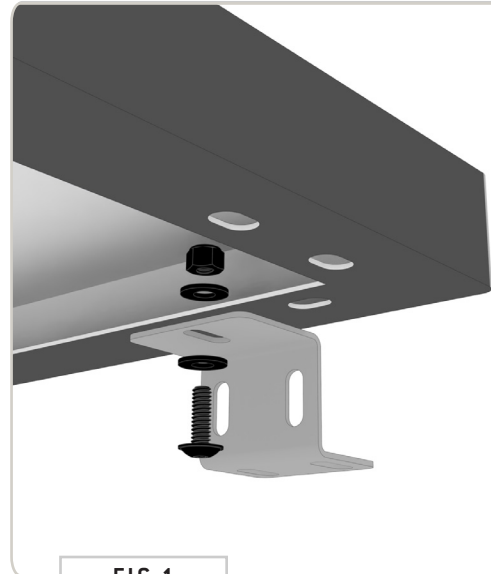

FIG 1
1.2 Attach Mounting Brackets to Solar Panel: Loosely attach Solar Panel to Mounting Brackets using a **1/4-20" Screw**, two **1/4" Flat Washers** and a **Nylon Locknut** as shown in **FIG 1**.